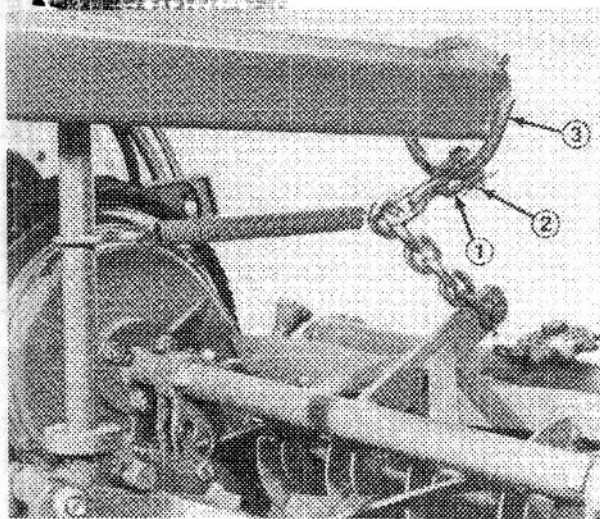

Figure 13.
1. Connect (2) outer lift chains to pulley support with short shackles, clevis pins and cotter pins (Fig. 13).
3. Secure short lift chains to No. 4 and No. 5 lift arms (rear) with short shackles, clevis pins and cotter pins (Fig. 13). Secure to welded ring.